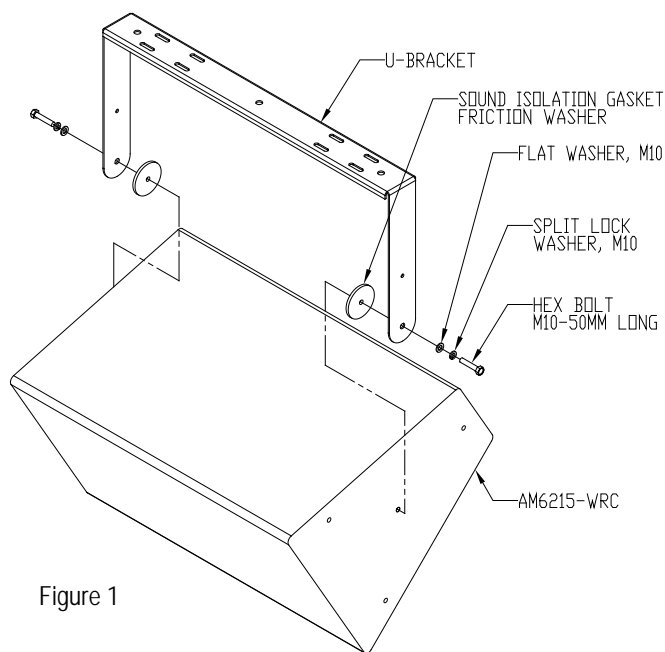

Figure 1
Step 3. Place the speaker between the U-Bracket's arms. Insert a hex bolt, flat washer and split lock washer (must match the speaker's thread) through the hole in the arms with the sound isolation gasket. Thread the bolt into the loudspeaker. Repeat on the other side of the speaker (Figure 1). Do not fully tighten yet.